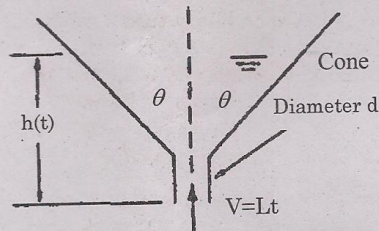

Fig. 1
11. (a) (i) Water enters the bottom of the cone in Fig. 1. at a uniformly increasing average velocity $V = Lt$. If d is very small, derive an analytic formula for the water surface rise $h(t)$, assuming $h = 0$ at $t = 0$. (8)